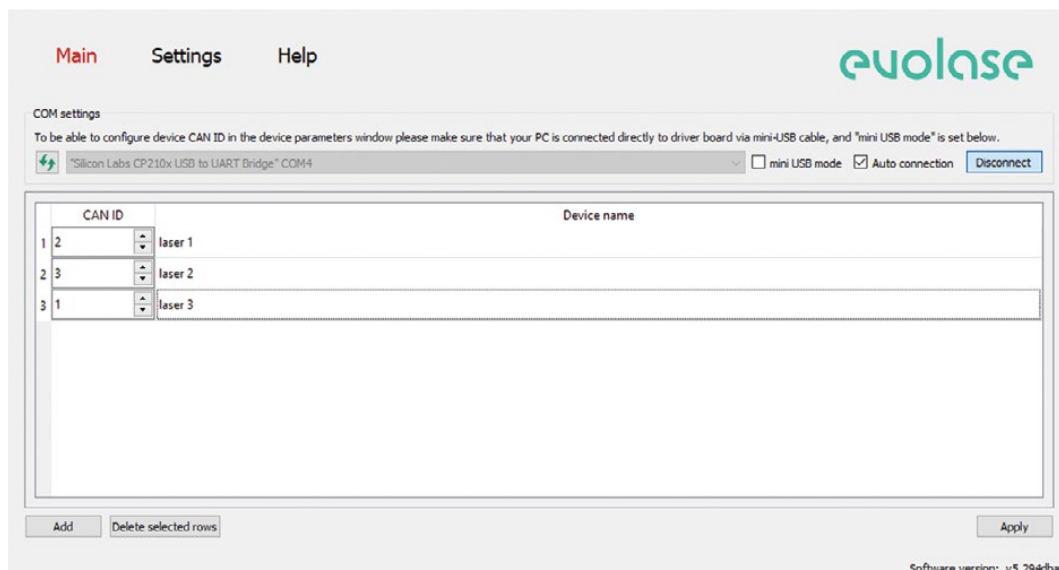

Figure 12: The system configuration menu
3. Click "Settings" to enter the program configuration menu (fig. 12).